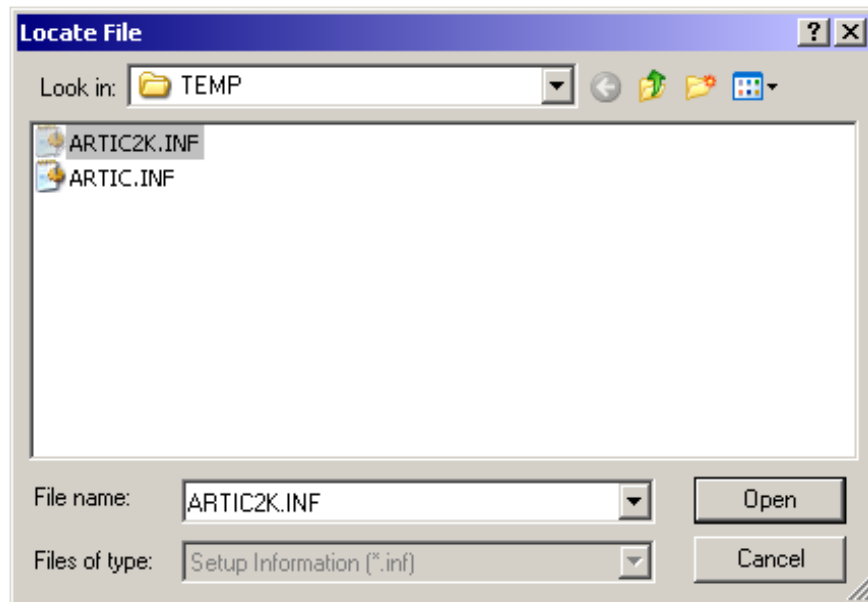

FIGURE 193. Locate File window
22. Select the ARTIC2K.INF file as seen in Figure 193.